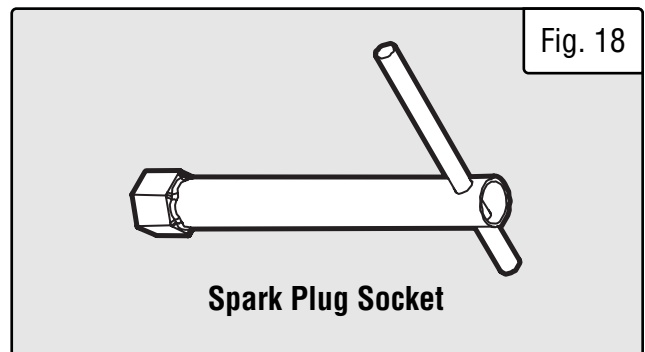

Fig. 18
2. Use the included spark plug socket (Fig. 18) to unscrew and then carefully remove the spark plug from the engine.